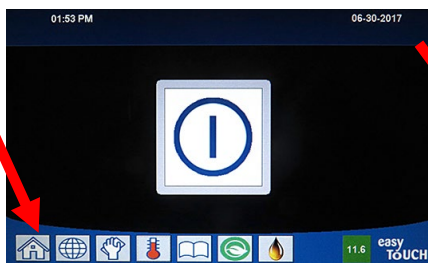

Figure 15
12. Wait two (2) minutes and press the **"HOME"** button on the (see Figure 15).
18. Press the "HOME" button (see Figure 15) when finished.